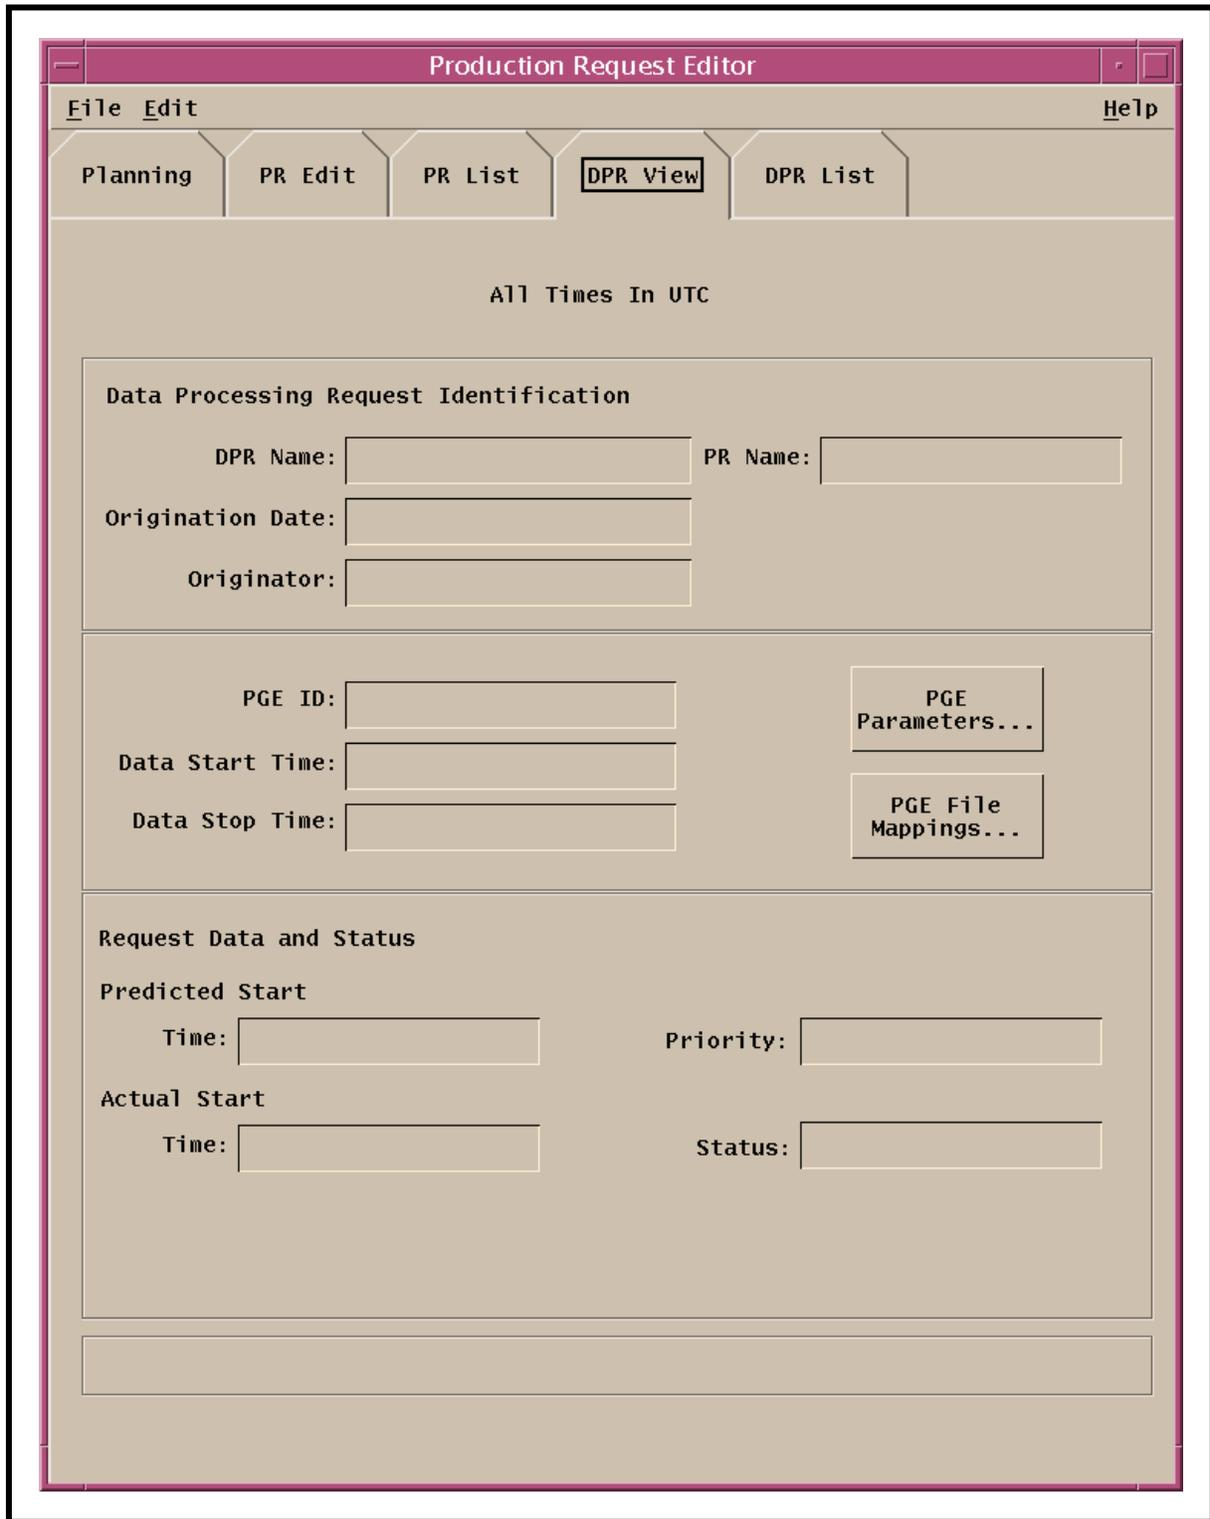

Figure 32. DPR View GUI
- The **DPR View** GUI (Figure 32) is displayed.